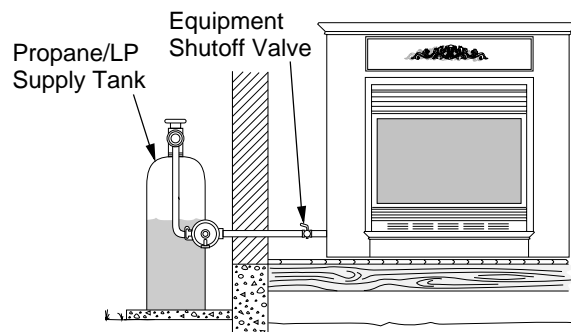

Figure 28 - Checking Gas Joints Shown with Optional Mantel (Propane/LP Gas)
3. Check all joints from gas meter for natural or propane/LP supply to equipment shutoff valve (see Figures 28 and 29). Apply a noncorrosive leak detection fluid to gas joints. Bubbles forming show a leak.
4. Check all joints from equipment shutoff valve to thermostatic gas valve (see Figures 28 and 29). Apply a noncorrosive leak detection fluid to gas joints. Bubbles forming show a leak.